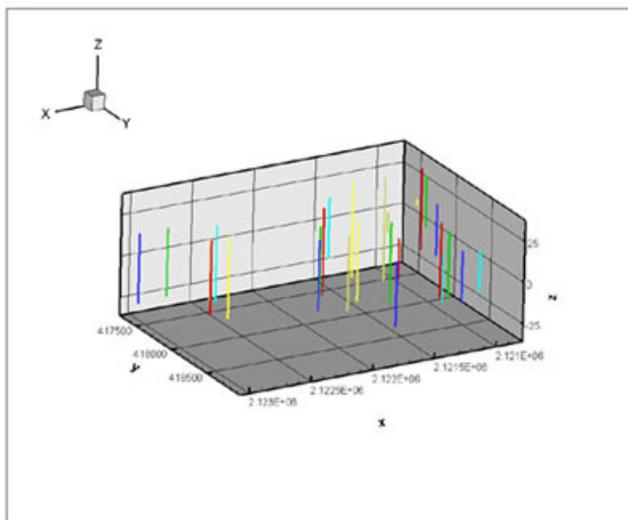

Figure B-5. The Excel well data plotted in Tecplot 360 EX.
3. Switch to 3D Cartesian plot mode to see the location and measurement depths of the well samples. The resulting plot is shown in Figure B-5.